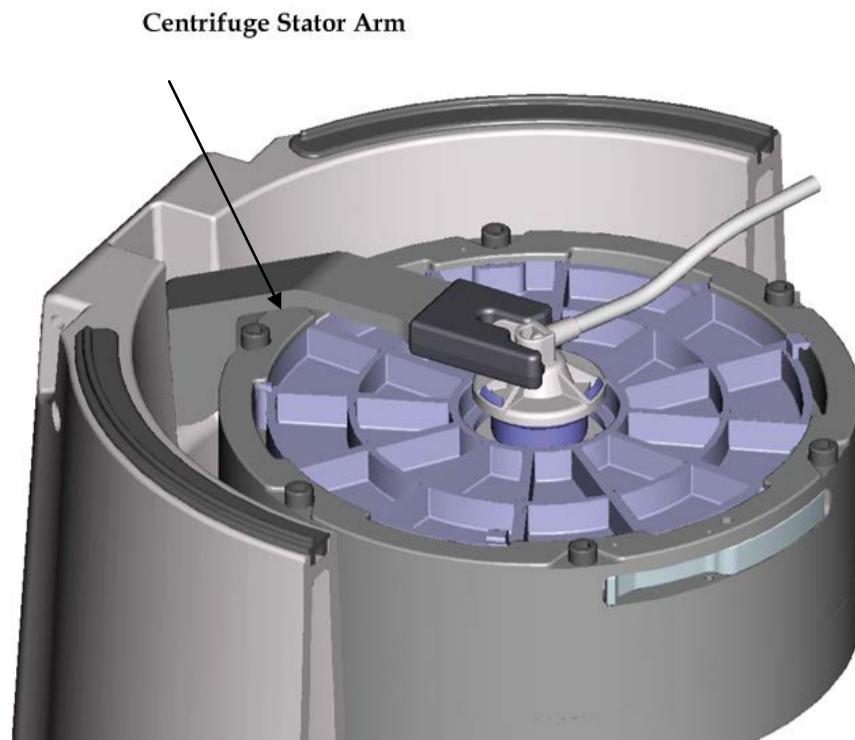

Figure 4 - Centrifuge stator arm aligned with the variable volume separation chamber
7. Lower the centrifuge stator arm and align it with the raised tab on the top of the rotating seal of the variable volume separation chamber (see Figure 4).